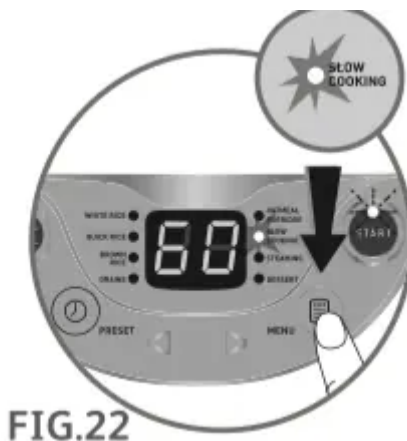

FIG.22
- Press "Menu" button while in standby mode until the "Slow cooking" indicator light turns on, the digital screen will display "60" and the "Start" indicator light will flicker – Fig.22. The time can be adjusted from 60 minutes to 9 hours in hourly intervals.